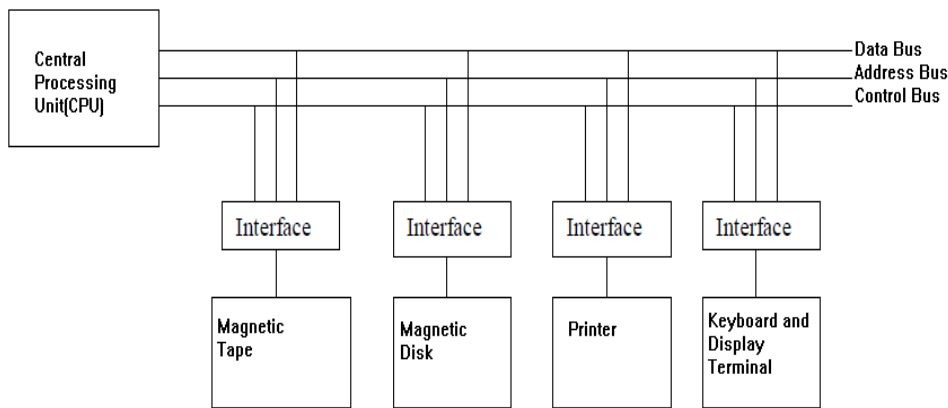

Figure 6 : Processor Interconnection with Peripheral Devices
3. **Control Bus** : How can we tell if the address on the bus is memory address or an I/O device address? This is where the control bus comes in (Figure 6). Each time the processor outputs an address it also activates one of the four control bus signals: Memory Read, Memory Write, I/O Read and I/O Write.
A CPU is referred to as the brain of the computer. For any processing on data, the data need to be brought inside the CPU. The data is transferred inside the CPU via input devices and the processed information is displayed via output devices. These input/output devices like, printer, keyboard, mouse, monitor, etc. are collectively known as Peripheral devices. At times the information is stored in the secondary storage devices for future reference. Clearly, the CPU needs to communicate with memory and peripheral devices. Therefore, the CPU requires some path, known as bus, through which it can communicate to these devices. Figure 6 shows how CPU is connected to these devices.
In Figure 6 , the peripheral devices are connected to CPU via interface. There are many differences in the implementation of CPU and the peripherals devices, some of the major differences are listed below: